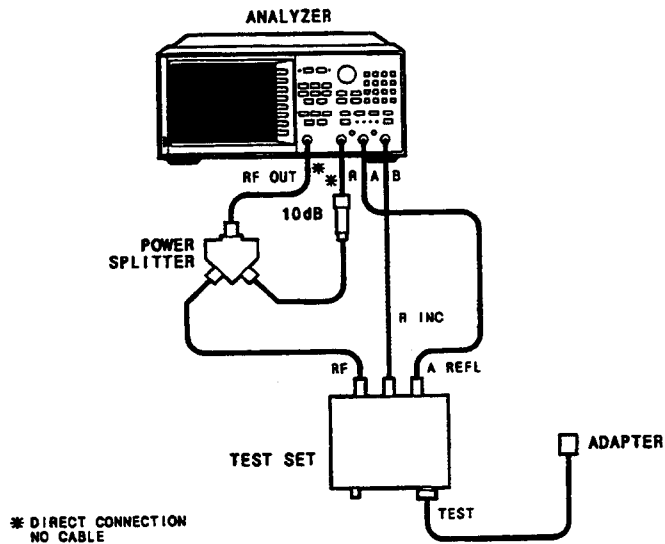

Figure 12. Input R Impedance Test Calibration Setup
8. Connect the equipment as shown in Figure 12 and press **[PRESET] [MEAS] [INPUT PORTS] [A/B] [MENU] [NUMBER of POINTS] [1] [6] [0] [1] [x1]**. Repeat step 2 to perform a calibration.